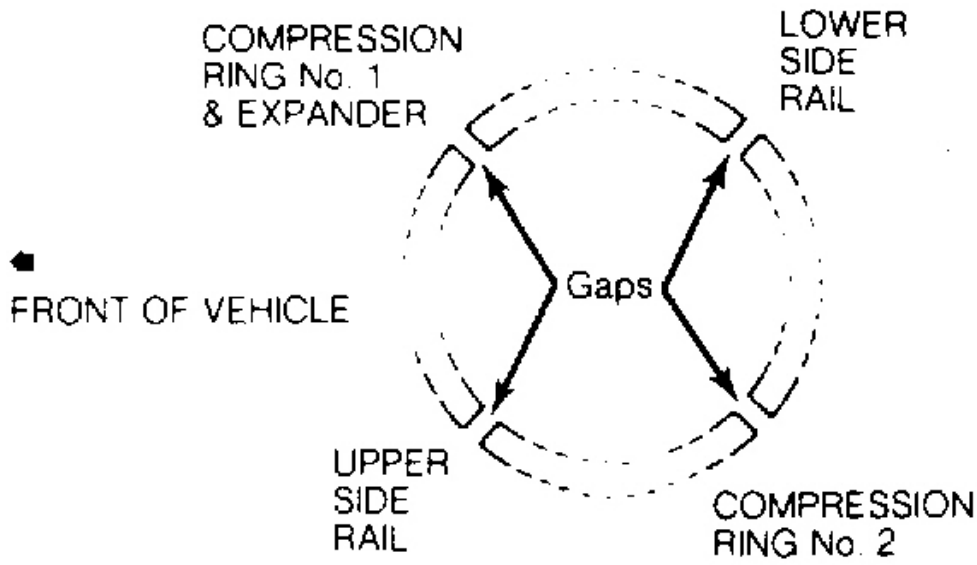

Fig. 8: Correct Piston Ring Gap Arrangement
Lubricate piston, cylinder and journal with clean engine oil. Position rings, and install ring compressor. See **Fig. 8**. Stamped mark on ring must face upward. Install piston/rod assembly in proper position with notch on piston top facing forward.
2. Position rings on piston with code marks facing up. Position ring end gaps correctly. See **Fig. 8**.